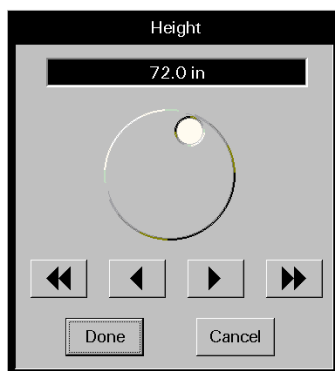

FIGURE 5-4 Height Dialog Box
1. From the **Demographics** tab, select the **Height** field. The **Height** dialog box (shown in FIGURE 5-4) is displayed.